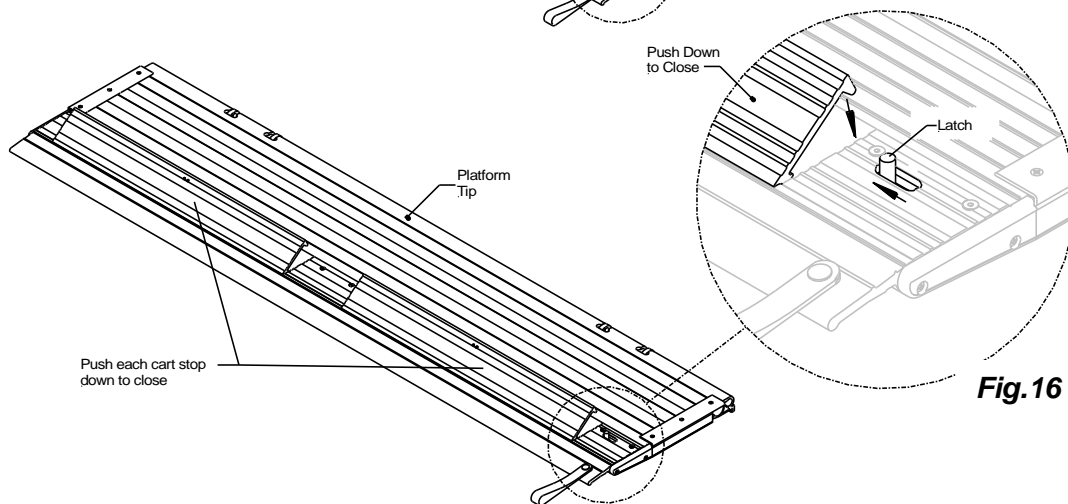

Fig.16
2. To close the cart stops, push the cart stop latch inward towards the street side, **Fig.16**. After the latch is in place close each cart stop by pushing each stop down.